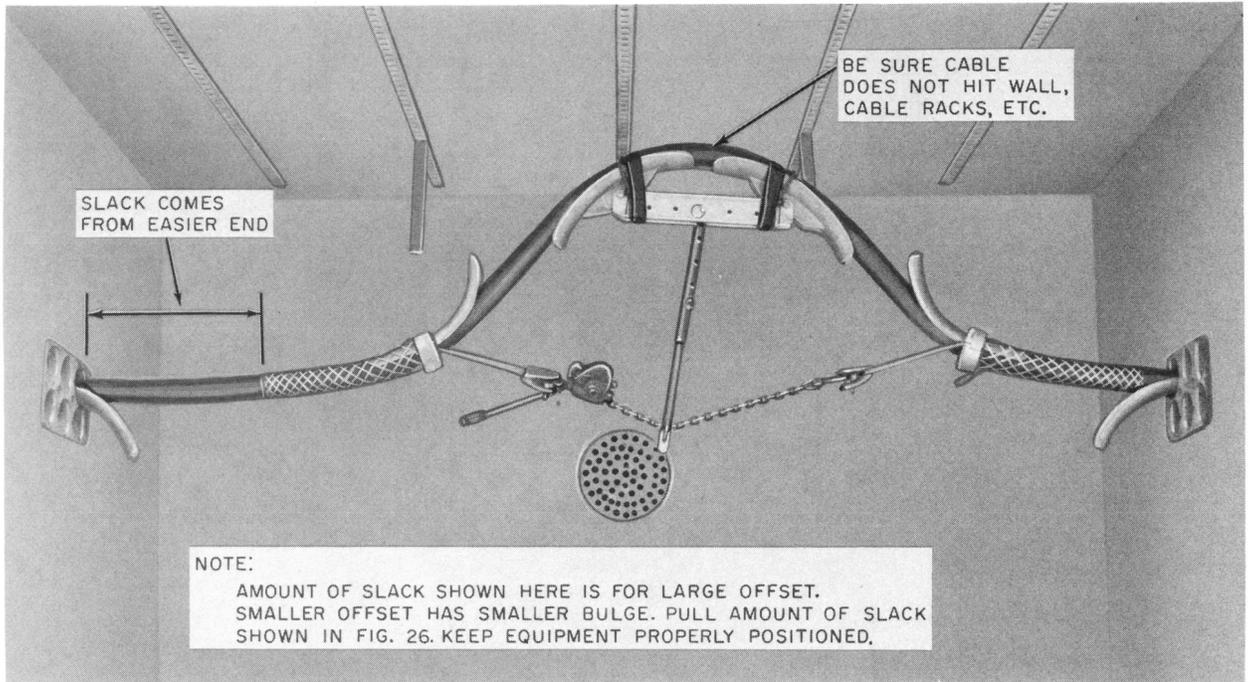

Fig. 28—Developing Slack
(6) Take up on the chain hoist. The chain hoist pulls slack into the manhole while the strut pushes the cable toward the manhole wall. It will be necessary to reposition the end of the strut on the chain as the pull progresses to keep the strut at right angles to the head of the tool. The strut length can be increased as the pull progresses. Be sure the cable bending shoes remain in position in the ducts to prevent damage to the cable. As shown in Fig. 28, continue to take up on the chain hoist until the required amount of tension free slack (see 13.01) has been developed in the manhole.